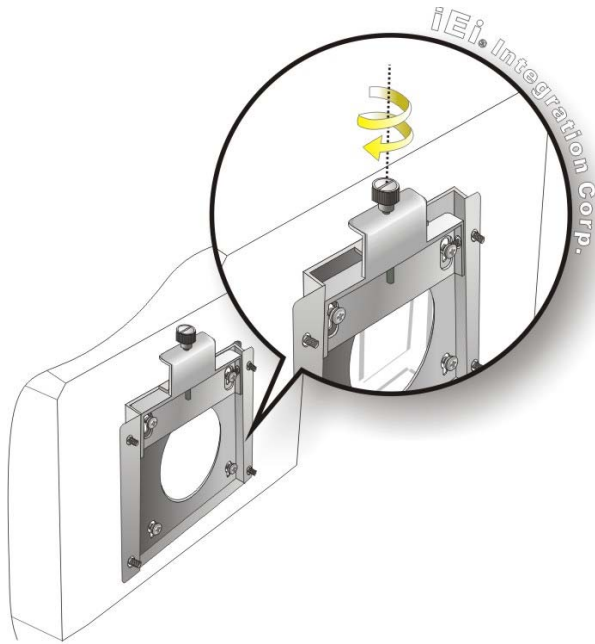

Figure 3-23: Secure the Panel PC
Step 9: Secure the panel PC by fastening the retention screw of the wall-mounting bracket (**Figure 3-23**).